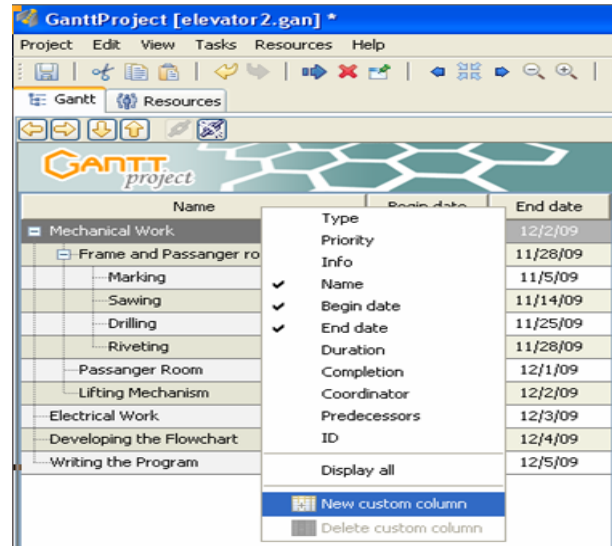

Figure 3.18: Creating a New Custom Column.
20. In order to assign a Task Lead for every Task, right click on the task pane, and then choose **New Custom Column** as illustrated by figure 3.18.